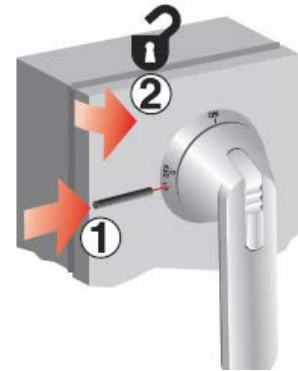

Figure 2. Defeating the Disconnect Switch
With the switch in the ON position, the handle door interlock may be defeated with a tool, such as a small screwdriver, to allow the door to be opened. The door interlock may be defeated in the ON position and will reactivate automatically when the enclosure door is closed. See item 1 on Figure 2.
Refer to Figure 2 and Tables 2a, 2b, and 2c for the input wiring locations of the SMART Combiner. PV positive and negative conductors are wired into the positive lug and negative distribution block, respectively. These terminal locations are clearly marked. All PV safety ground conductors are wired into the ground bus located at the bottom of the SMART Combiner.
NOTE: The SMART Combiner enclosure is shipped with no entry holes. A knock-out is required for the appropriate conduit size. SolarBOS recommends wire entry to be made according to Figure 2.